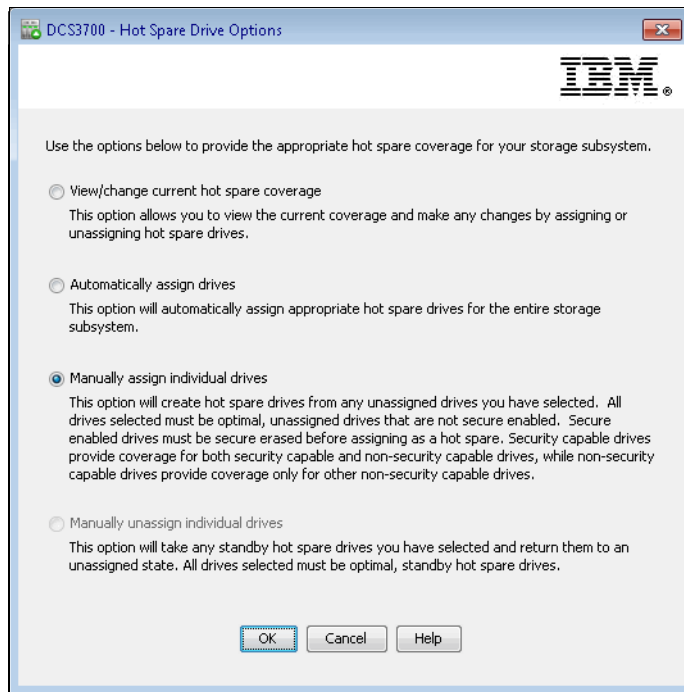
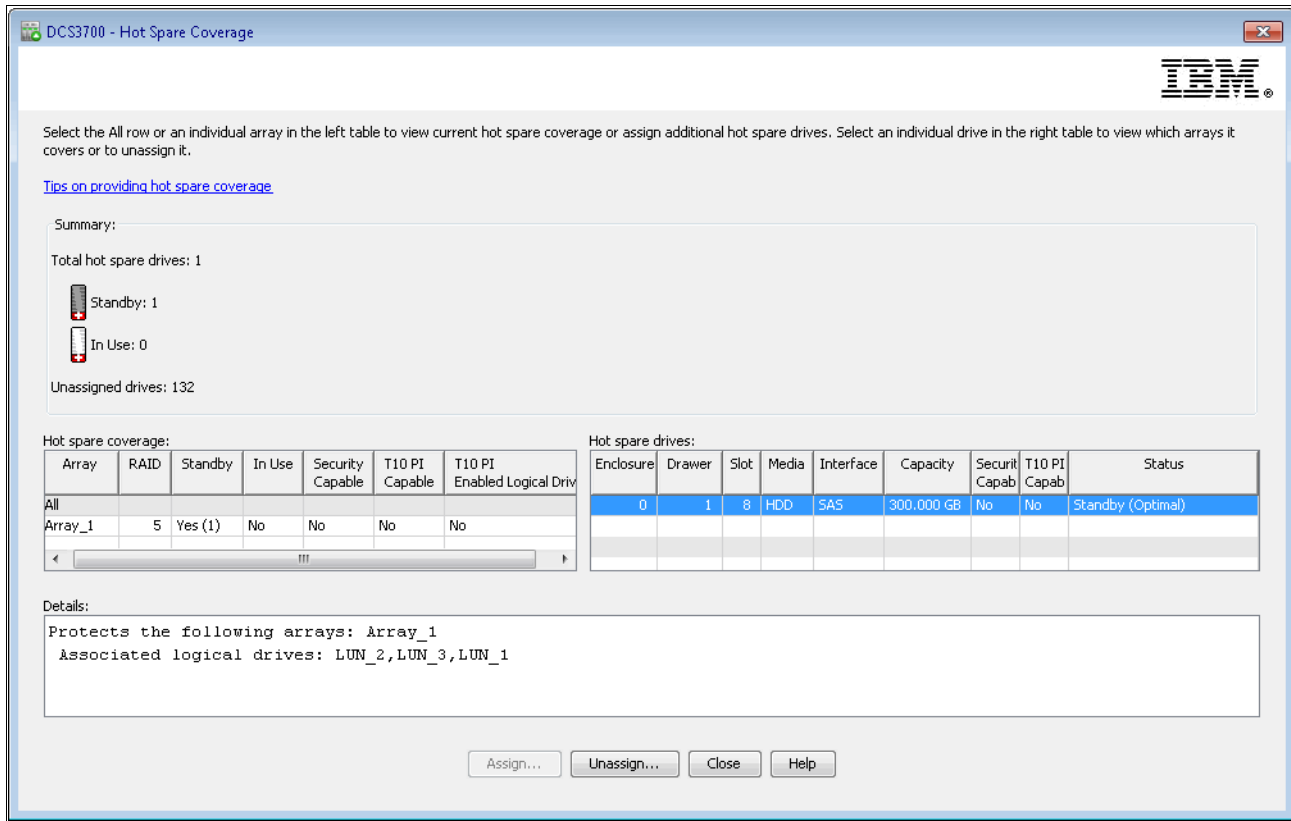

Figure 9-12 Hot Spare Drive Options
Figure 9-13 Hot Spare Coverage
To start the configuration of a new hot spare from the Physical pane, select an unconfigured disk drive that you plan to use as hot spare disk drive, right-click it, and select **Hot Spare Coverage**. The window that is shown in Figure 9-12 opens.
1. Select an unconfigured disk drive that you plan to use as hot spare disk, right-click it, and select **Hot Spare Coverage**. The window that is shown in Figure 9-12 opens with the **Manually assign individual drives** option already preselected. Click **OK** and the unassigned drive is defined as a hot spare.
2. Select a hot spare disk drive that you do not want to use as a hot spare disk drive any more, right-click it, and select **Hot Spare Coverage**. The window that is shown in Figure 9-12 on page 316 opens with the **Manually unassign individual drives** option already preselected. Click **OK**, confirm your choice by typing Yes in the next window, and the former hot spare drive is an unassigned disk drive again.
In the Hot Spare Drive Option window (Figure 9-12 on page 316), click the **View/change hot spare coverage** option. The Hot Spare Coverage window opens, as shown in Figure 9-13.